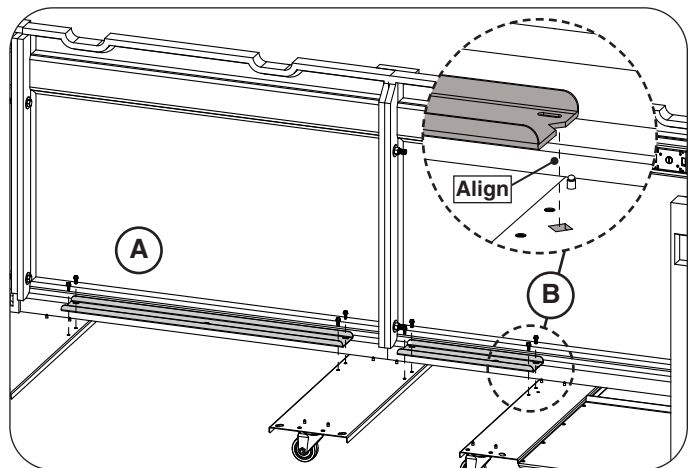

Fig. 7-2 Install support beams to wheel assemblies
4. Place the large support channel, and fasten using the included hardware and a $\frac{3}{8}$ " open-end wrench or equivalent. Hand tighten only. See Fig. 7-2, A.
5. Repeat for the small support channel. Align the right side of the channel to the diamond cutout on the right wheel assembly. See Fig. 7-2, B.